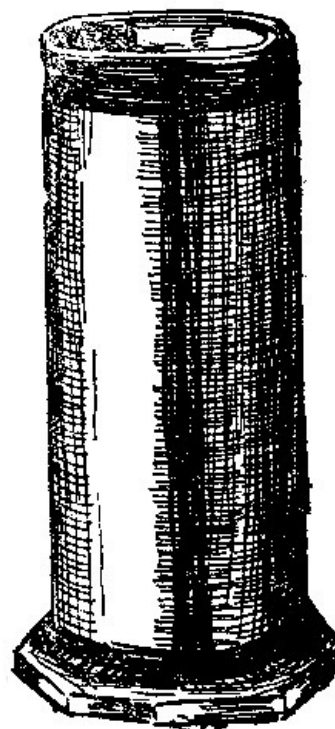

Fig. 10.
**17. Porous Cups for Two-fluid Cells.** Fig. 10. Very good porous cups can be made from ordinary blotting-papers, the average ones measuring  $9\frac{1}{2} \times 4$  in. White ones should be used, so that you will not be bothered with the color coming out. Soak the edge along one end of the blotter in paraffine (Index) for about  $\frac{1}{4}$  in. When this is cold, roll the blotter into the form of a cylinder that is a little over 1 in. inside diameter, and have the paraffined end on the outside. This will make 2 thicknesses of paper all around, and a little to spare. Rub a hot nail over the paraffine to melt it, and stick the end to the cylinder. By putting on a little more paraffine along the edge where the end laps over, a good solid cylinder can be made. The cylinder should be strengthened still more by dipping each end into melted paraffine for about  $\frac{1}{8}$  in. The dark stripes around the ends and down the front of the cylinder (Fig. 10) are to represent the paraffine. Cut out a bottom about  $\frac{1}{4}$  in. larger all around than the cylinder. This may be paraffined to make it stiff. It should be fastened to the cylinder with paraffine. Paraffine is not acted upon or softened by water or acid, as is the case with glue.